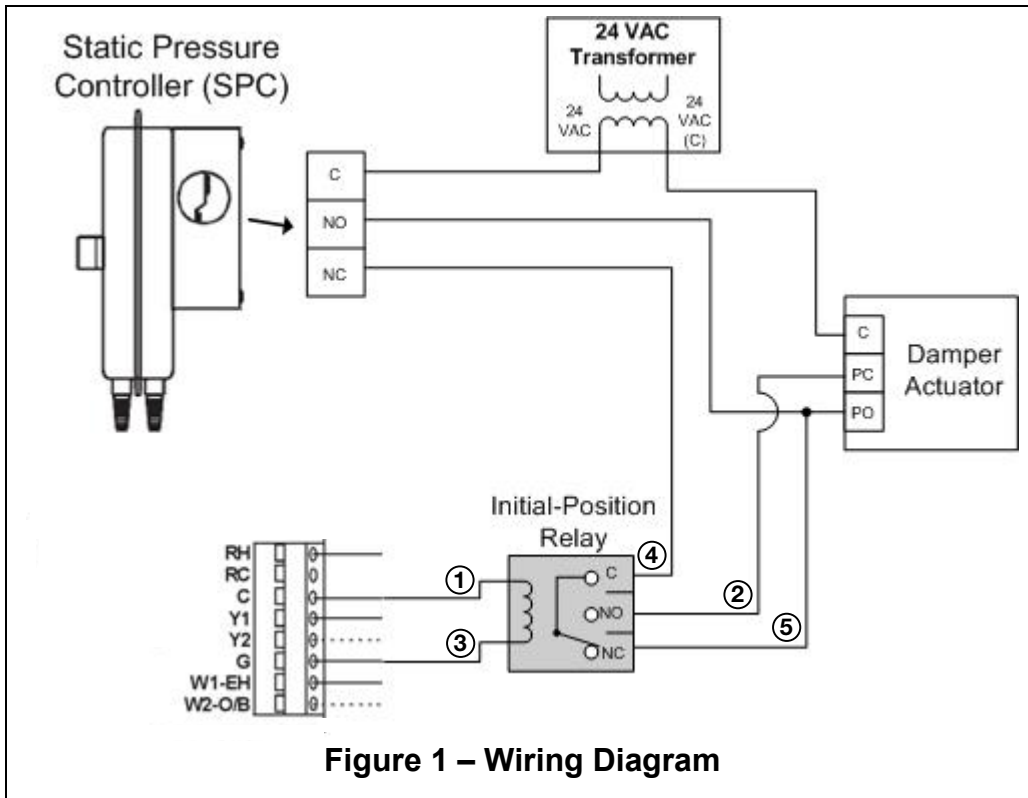

Figure 1 – Wiring Diagram
Each **SPC** includes a SPDT Relay that should be wired in conjunction with the SPC and Power-Open/Power-Close Damper as shown in **Figure 1**. This relay is included so that when there is NO CALL for the FAN on the equipment side of the Braeburn Zone Controller the bypass damper will drive open. When a FAN call occurs the relay allows **SPC** to operate normally.
Before pressure is applied to the diaphragm, the switch contacts on the SPC will be in the normally closed (NC) position. This snap switch has screw top terminals with cup washers. Wire according to **Figure 1**.